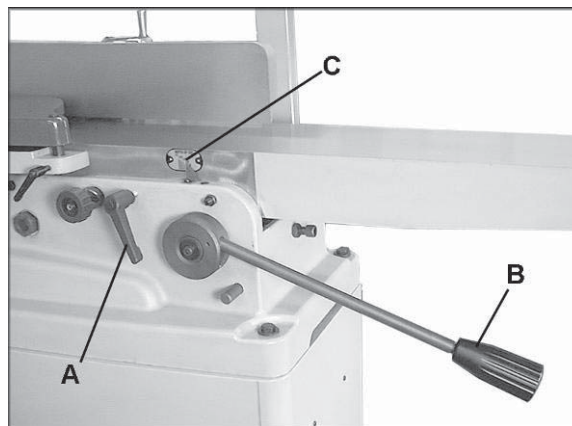

Figure 34
1. Loosen locking handle (A, Figure 34).
2. Move table adjustment arm (B, Figure 34) to raise or lower infeed table to the desired depth of cut, which is shown on the gauge via the pointer (C, Figure 34).
3. Re-tighten locking handle (A, Figure 34).